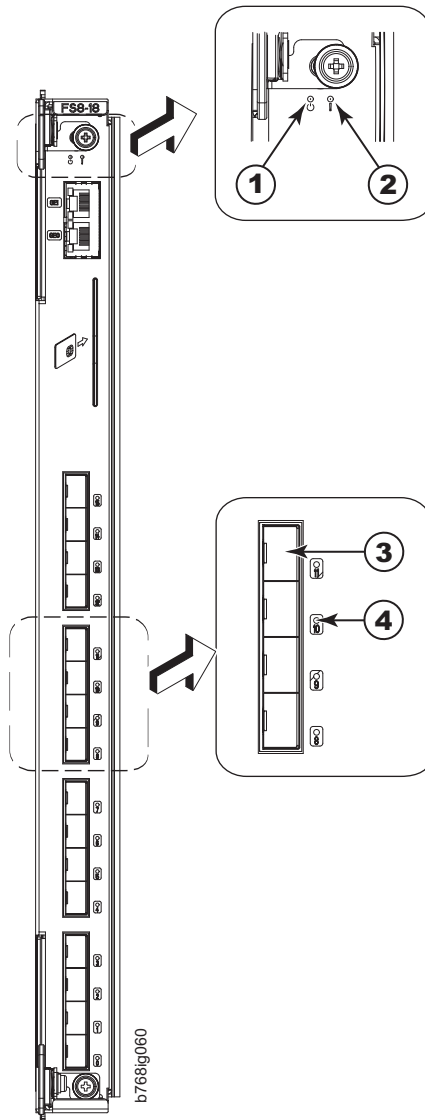

Figure 21. FS8-18 encryption blade
- Figure 21 on page 66 illustrates the FS8-18 encryption blade